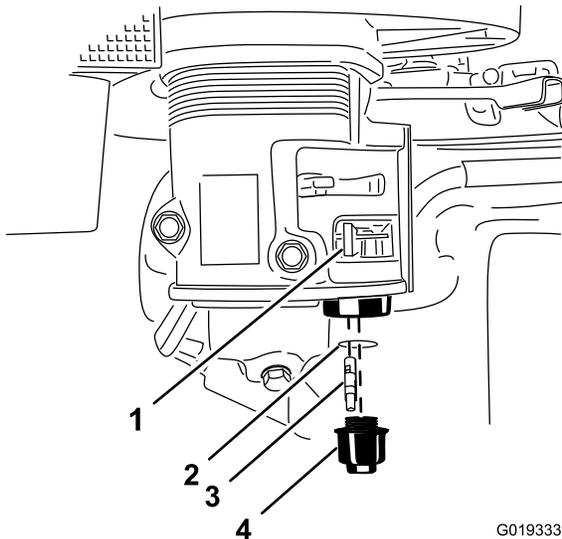

Figure 22
4. Remove the sediment cup and O-ring (Figure 22).
6. Place the O-ring in the fuel valve and install the sediment cup, tightening it securely (Figure 22).